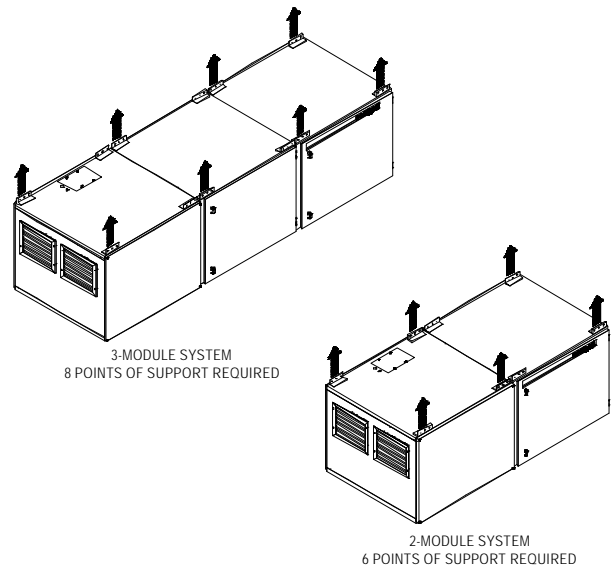

FIGURE 1
**CAUTION: Typical installations require that unit be suspended from ceiling structure. Structure must be sufficient to support at least four (4) times the maximum weight of the unit.**
3. Support the unit at each end and where modules are coupled together (see Figure 1).
1. The MX 6000's optional after filter module can hold up to four (4) 20" x 24" x 12" filters. The After Filter Module is preassembled to the MX 6000, between the Filter Module and Blower Module (see **Figure 1**).
3. To remove filters from the After Filter Module, open the filter access door, thereby gaining access to filters. Loosen the eight (8) thumb screws that hold filter tracks securely against filters. Pull back the filter tracks allowing the filters to slide freely, and pull filters out of Filter Module.